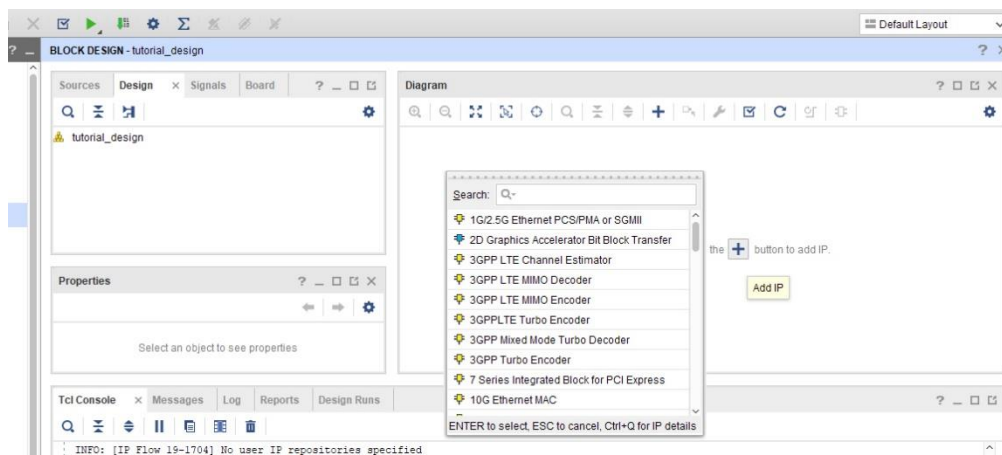

Figure 7
4. To view and add an IP core click on the **+** icon in the middle of the right side **Diagram** window to open a catalog of pre-built IP blocks from Xilinx IP repository (Figure 7)
The first step is to add the **ZYNQ7 Processing System** to our design. To do this we have two options: to click on the **+** icon in the middle of the right-side **Diagram** window and look for the **ZYNQ7 Processing System** in the Xilinx IP repository (Figure 7); or, to open the **IP Catalog** in the **Flow Navigator** window. We are going to follow this latter alternative.